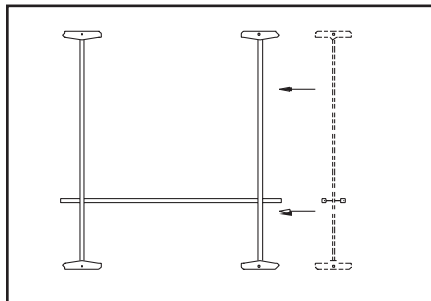

Figure 35
- Slide the traverse rail onto the trolleys (see steps 27-28 above). Once the traverse rail is on the trolleys, loosen the two posts you moved previously and slide the parallel rail back into place (Figure 35).